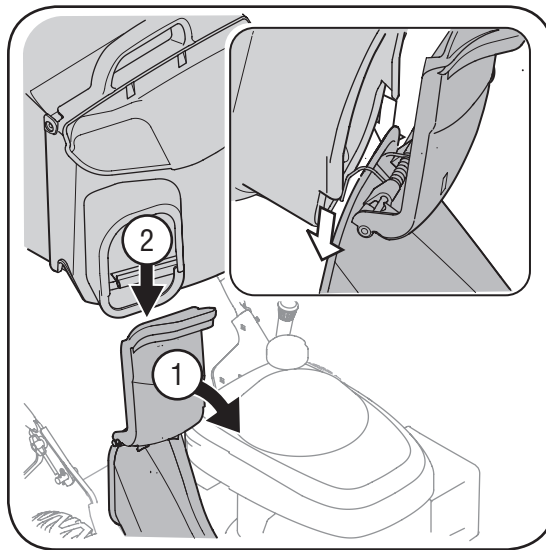

Figure 3-5: Attach the grass bag to discharge chute.
- c. Lift chute door on the grass bag adapter and slide grass bag onto the adapter. See Figure 3-5.